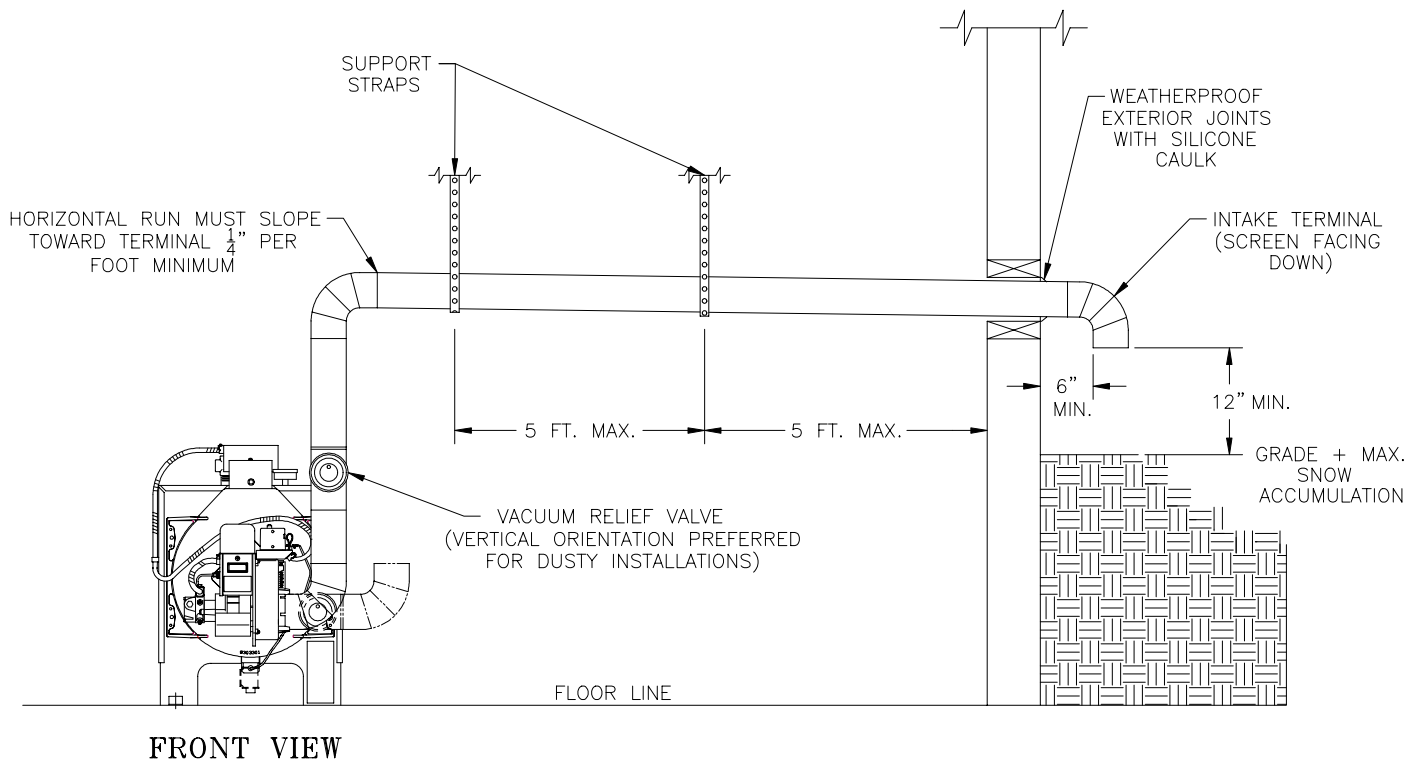

Figure 13: Air Intake Installation
See Figure 13.
4. Mount the vacuum relief valve tee assembly or 90° elbow into the burner inlet ring. See Figure 13.
- a. Secure with at least three (3) sheet metal screws evenly spaced around the burner inlet ring.
5. Install remainder of air intake, securing each joint with at least three (3) sheet metal screws evenly spaced.
6. Install air intake terminal. See Figure 13.